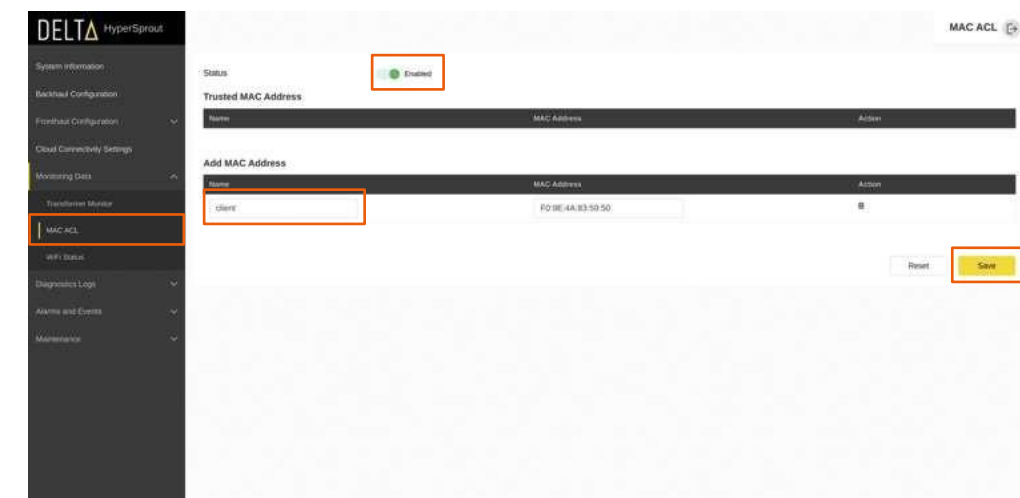

Figure 56: MAC ACL – Representation - 2
- Click the '+' icon and add a specific client's digital device *MAC Address* along with the user's name and click *Save*. See *Figure 56*.